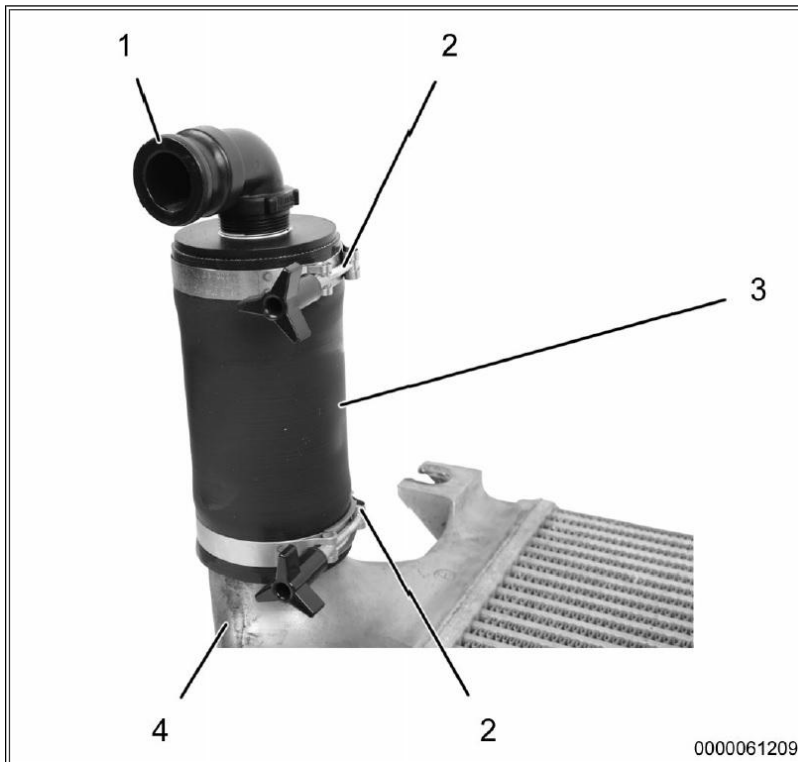

Figure 8: CAC Outlet Adapter
3. Remove T-clamp (**Figure 8**, Item 2) and CAC adapter (**Figure 8**, Item 1) from large hose (**Figure 8**, Item 3).
4. Remove T-clamp (**Figure 8**, Item 2) and large hose (**Figure 8**, Item 3) from CAC Outlet (**Figure 8**, Item 4).